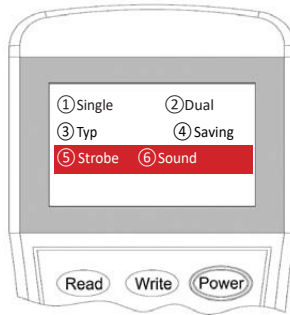

Figure 13
3. Input the “5” for Strobe type or “6” for **Sounder** type, then press “Write” to change the setting into the desire mode (Figure 13).